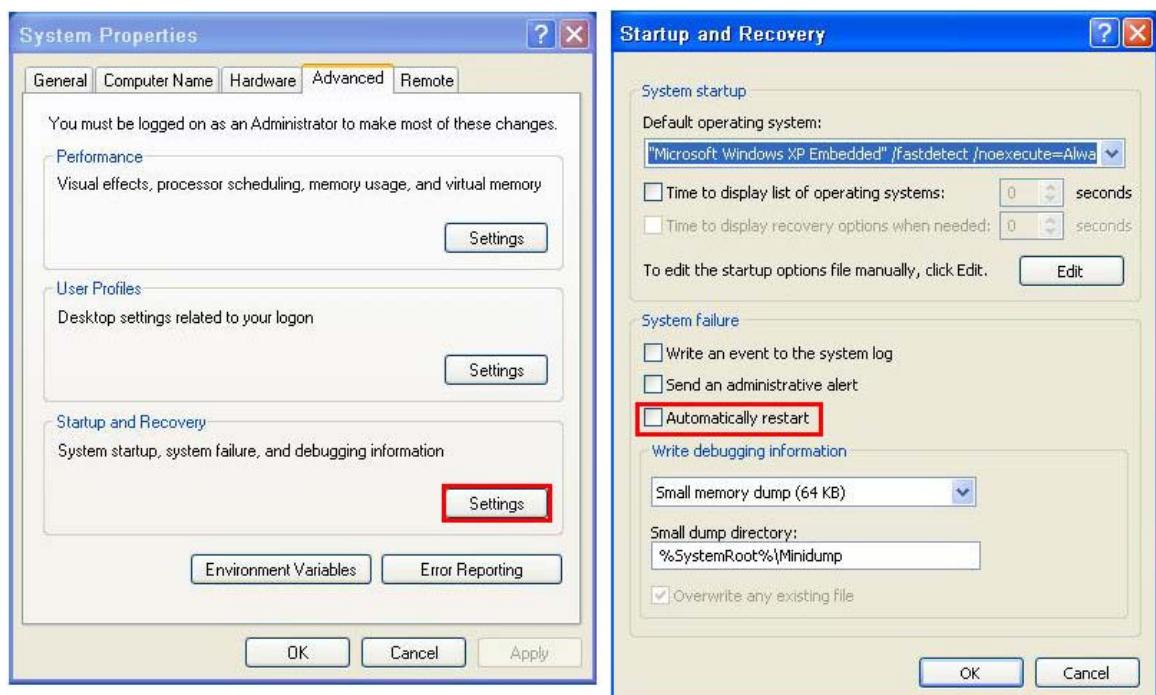

Figure B-23: Disable Automatically Restart
Step 3: Disable the automatically restart function before creating the factory default image. Go to: My Computer → Properties → Advanced. Click the Settings button of Startup and Recovery. Deselect “Automatically restart”. Click OK to save the settings and exit. (See Figure B-23)